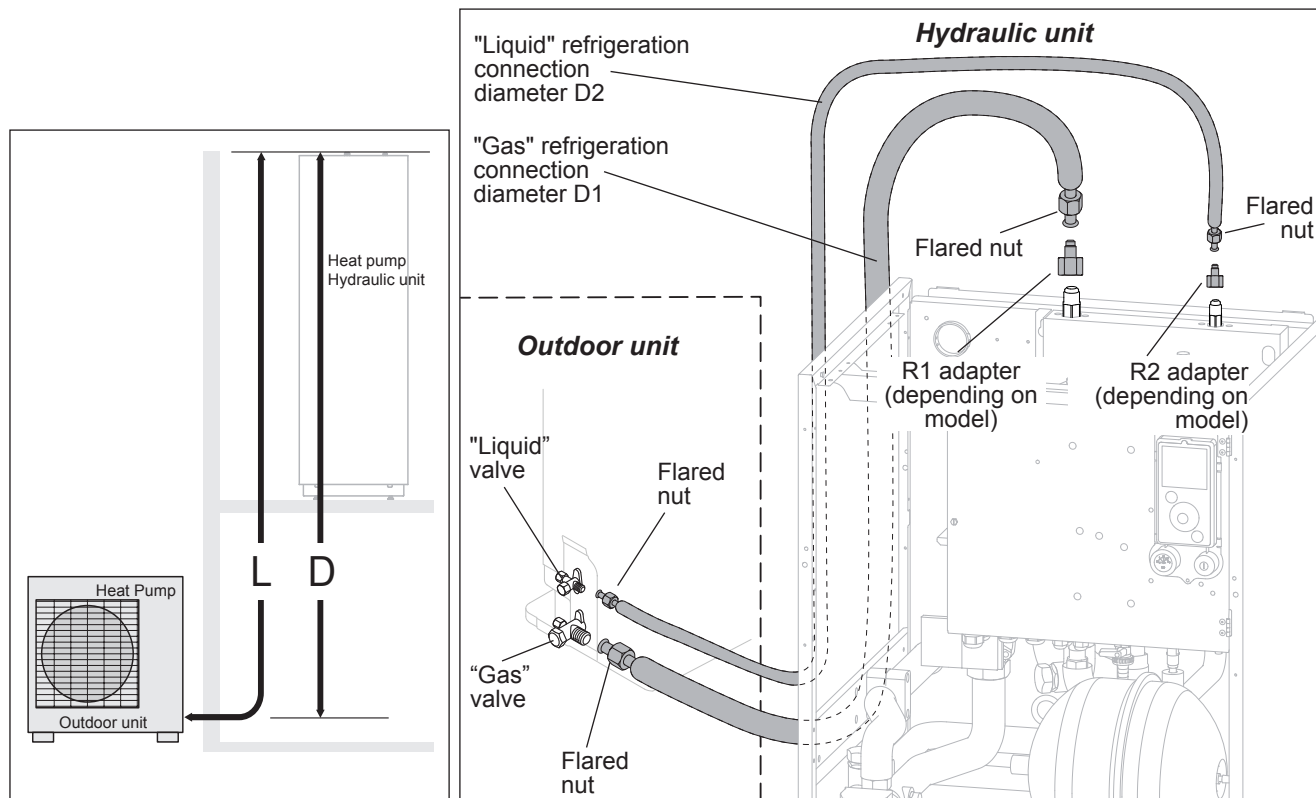

figure 19 - Refrigeration connections (authorised diameters and lengths)
- Where necessary, connect an adapter (reducer) 1/4"- 3/8" or 1/2"- 5/8" (see figure 19).